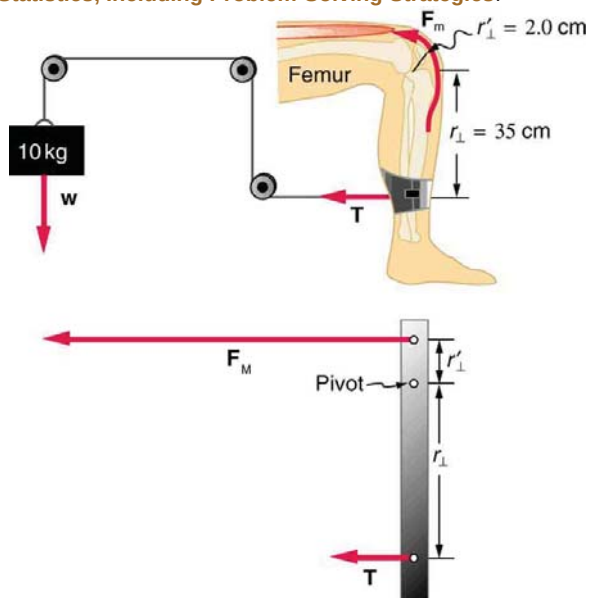

Figure 9.38 A mass is connected by pulleys and wires to the ankle in this exercise device.
29. A device for exercising the upper leg muscle is shown in **Figure 9.38**, together with a schematic representation of an equivalent lever system. Calculate the force exerted by the upper leg muscle to lift the mass at a constant speed. Explicitly show how you follow the steps in the **Problem-Solving Strategy for static equilibrium in Applications of Statistics, Including Problem-Solving Strategies**.